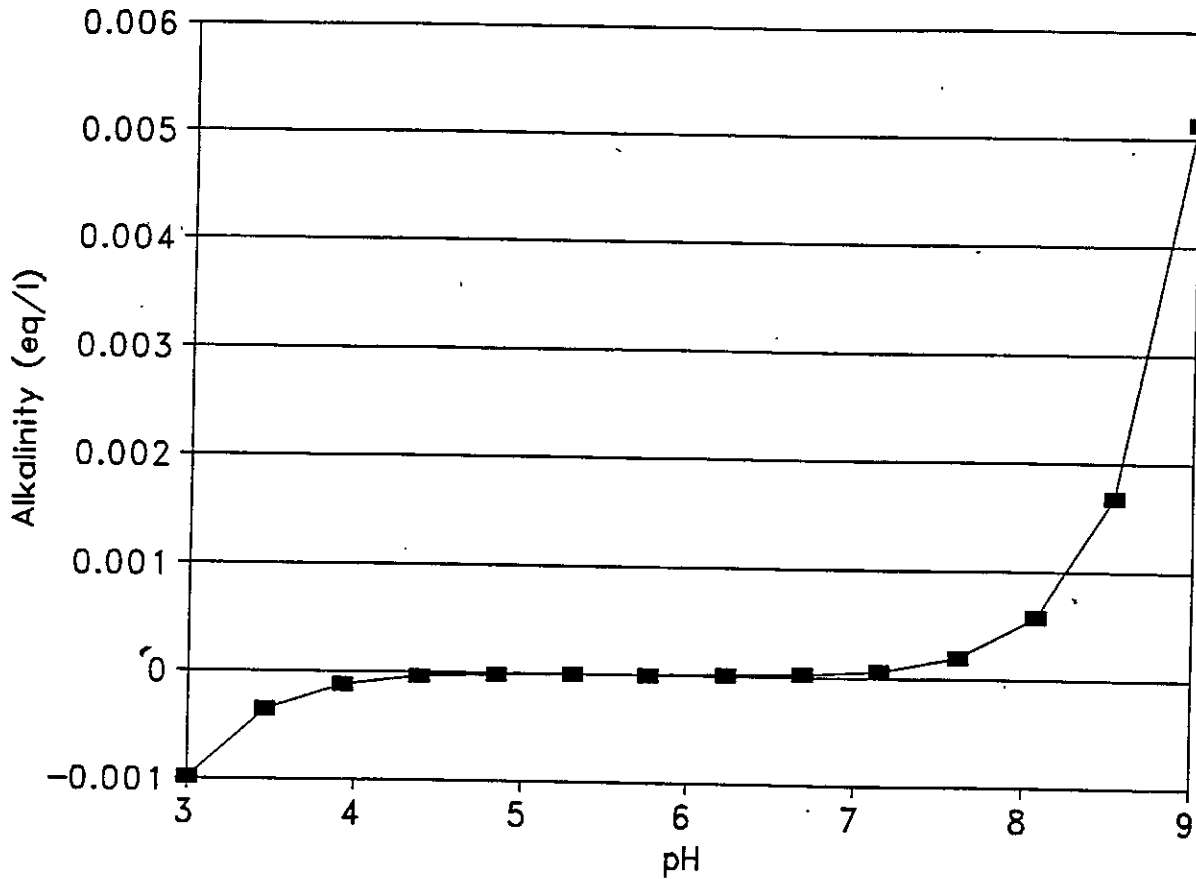

Figure 4.18.
4. **The alkalinity of the system.** Alkalinity is a composite variable since it is calculated from species contained in MINEQL⁺ output. The Graphics Manager cannot plot a composite variable, so we must use the Output Manager in this case. Open the **S2.CO3(2+)/OBS/Conc** view and extract/save the HCO₃⁽⁻⁾ and CO₃⁽²⁻⁾ columns. Next, open the **S2.H(+)/OBS/Conc** view and extract/save the H⁽⁺⁾ and OH⁽⁻⁾ columns. Combine these two, along with the Multi file, into a spreadsheet. Calculate a new column within the spreadsheet that contains Equation 4.2. The resulting plot of alkalinity vs. pH should look like Figure 4.18.